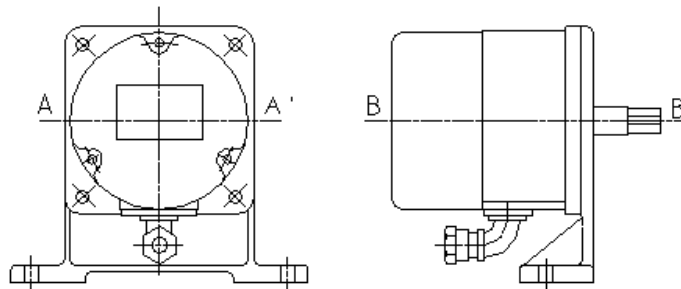

Fig. 5 Installation Direction
As a rule, install the Speed Relay horizontally. When the Speed Relay is inevitably installed to a slope or vertical plane, the shaft (①) must be directed downward. The line A-A' shown in Fig. 5 must be horizontal. If the line A-A' tilts for 5 degrees or more, the error of the actuating speed will cause malfunction.